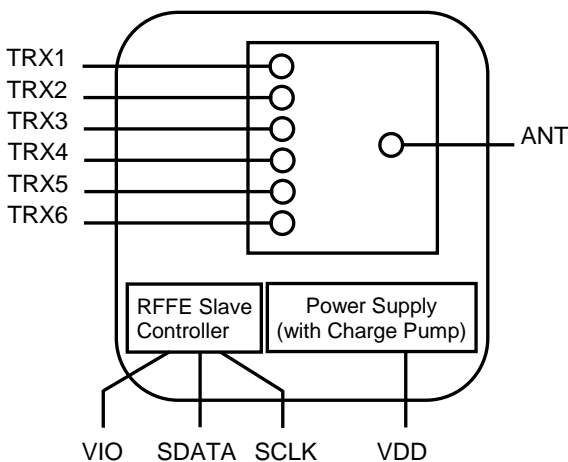
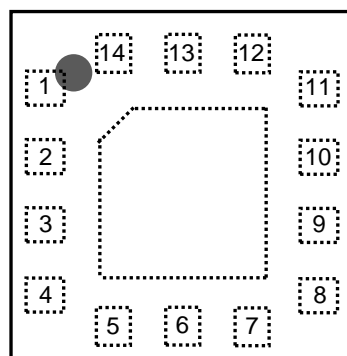

Figure 1. RFASWH526BTF03 Block Diagram
Figure 2. RFASWH526BTF03 Pin assignment
- The functional block diagram is shown in Figure 1. The pin assignment and package are shown in Figure 2. Signal pin assignments and functional pin descriptions are provided in Table 1.